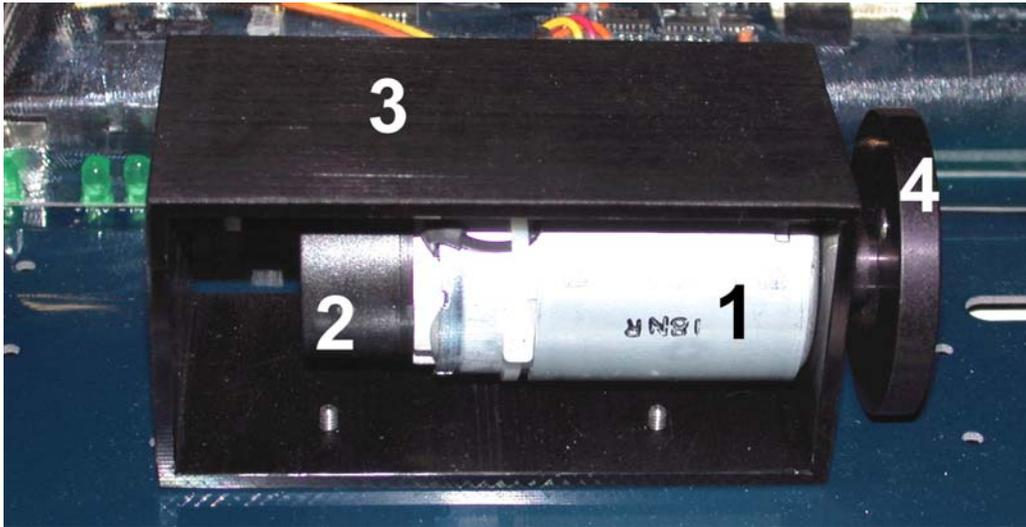

Figure 1 DCMCT Components
As a quick nomenclature, Table 1, below, provides a list of the principal elements composing the DC Motor Control Trainer (DCMCT) system. Every element is located and identified, through a unique identification (ID) number, on the DCMCT plant represented in Figure 1.